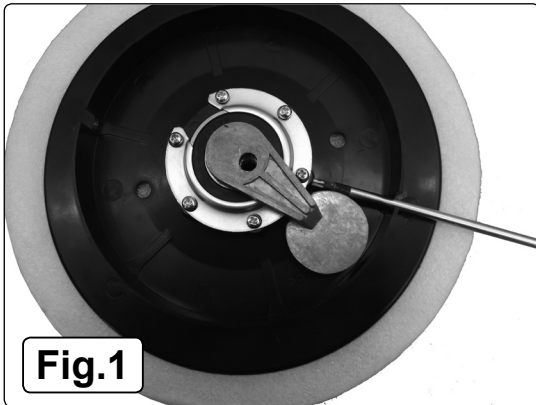

Fig.1
- 5.4.2. Insert a rod (cross headed screwdriver or similar) into the hole in the side of the pad mounting, see fig.1.